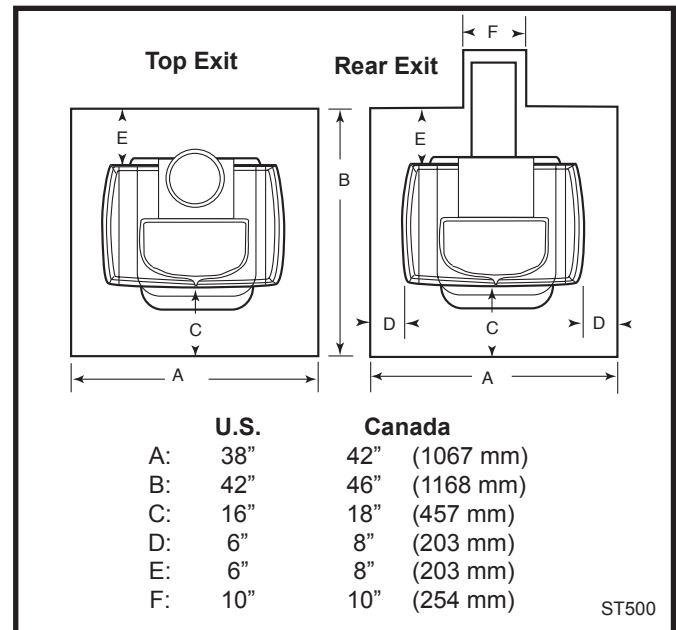

Fig. 11 Required floor protector dimensions.
**U.S. installations** the floor protector is required under the stove and must extend at least 16" from the front of the stove ("C", Fig. 11), and at least 6" from the sides and rear ("D" and "E", Fig. 11). It must also extend under the chimney connector and 2" to either side ("F", Fig. 11).
**In Canada**, a noncombustible floor protector is required under the heater also. The floor protector must extend 18" (457 mm) to the front ("C", Fig. 11), and 8" (203 mm) from the sides and rear ("D" and "E", Fig. 11).